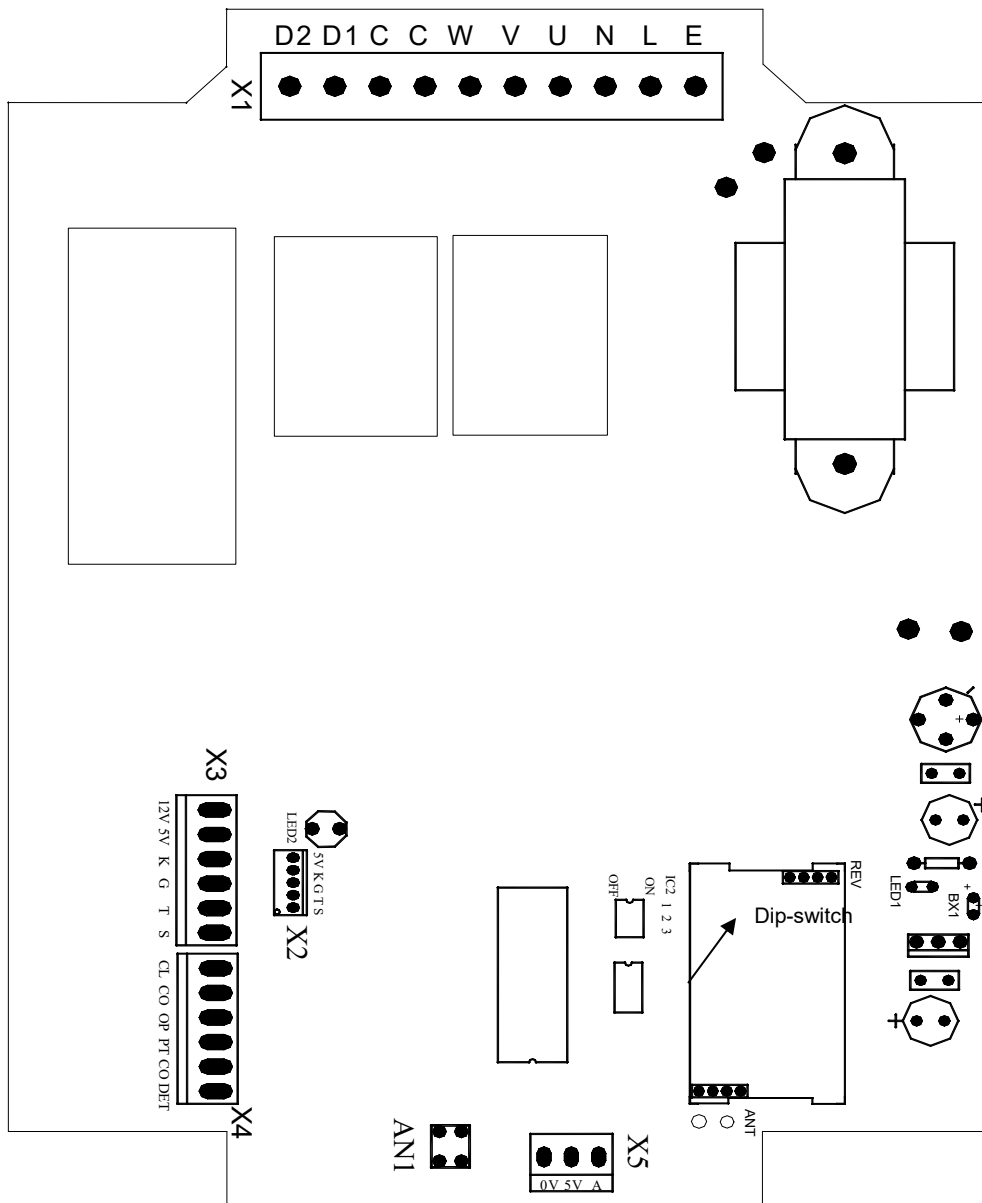

Fig.16 Single phase control board diagram
**Single phase control board see Fig.16**